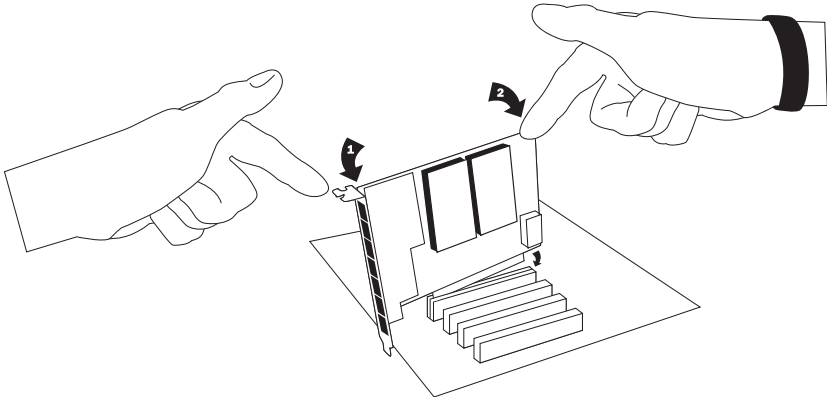

Figure 5: Insert the Card
3. Remove the bracket place holder and insert the card into a PCI (A8A) or PCI Express (A8B) slot. See Figure 5.